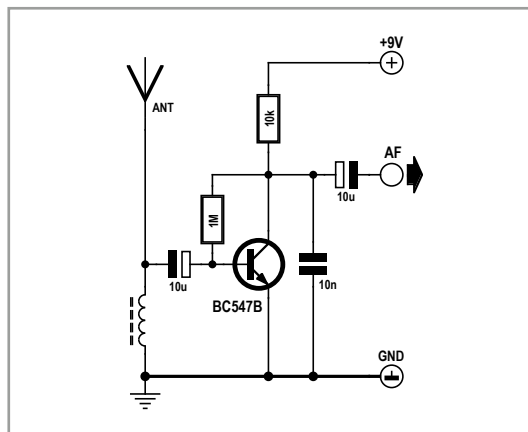

Figure 1.
**Figure 1** fits the bill. A regenerative receiver is a circuit that amplifies HF signals and demodulates them at the same time. With this extremely simple receiver you can listen to everything on the ether, whether it be a medium-wave broadcasting station or a very distant short-wave transmitter – and of course all possible types of HF noise in the near vicinity. The only prerequisite is a sufficiently long wire antenna. Around 30 feet of wire in the open air is ideal, but even shorter antennas can still yield good results. You also need an earth connection. A sensitive headset can be connected to the audio output, or better yet, a loudspeaker amplifier.